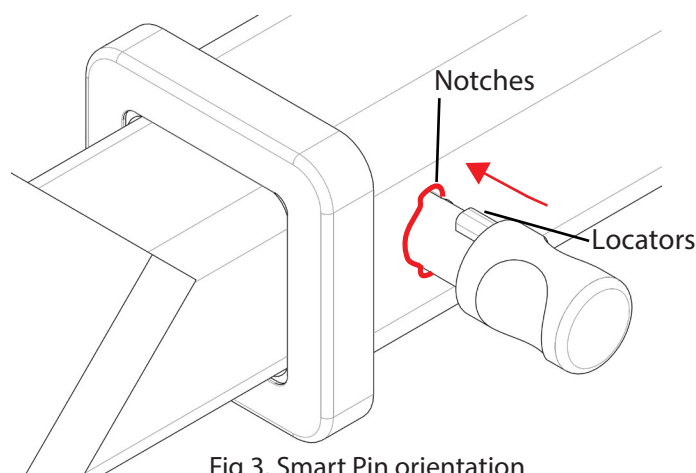

Fig 3. Smart Pin orientation
STEP 2 Insert SMART PIN through hole in HITCHBOX and hole in TBM SHANK; ensure the LOCATORS are inserted into the NOTCHES in the HITCHBOX (Fig. 3).